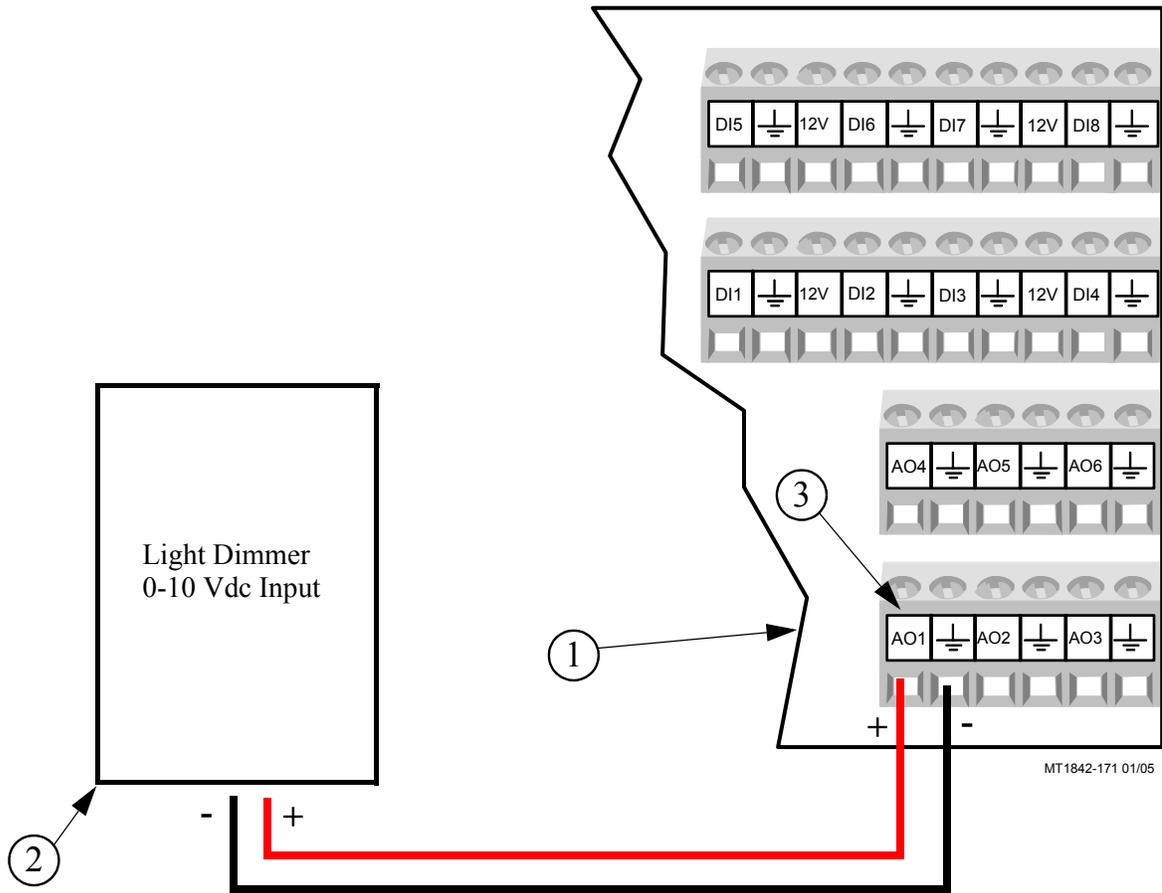

**Figure 96. PDS Flush Feedback Wiring**
If a PDS Drinker Control is being used to automatically flush water lines, then the Control can ignore pulses coming from the Water Meter(s) while flushing is taking place. If this option is used then a dry contact relay must be connected to one of the Digital (DI) Inputs of the IO Board. The coil of the relay should be energized whenever the Control begins its flushing sequence. See **Figure 96 below** for connecting the relay to the IO board of the Control.